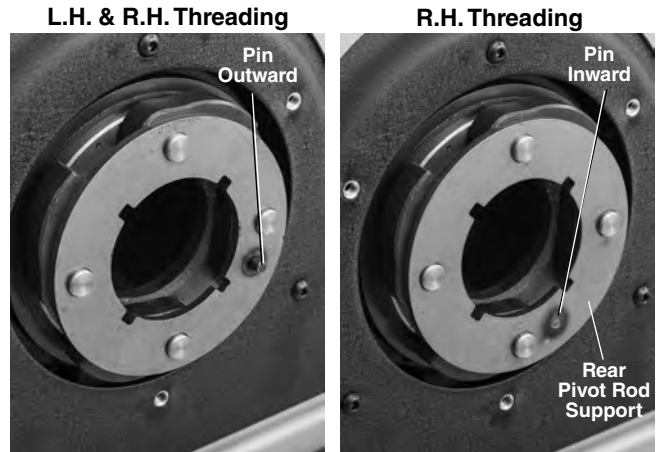

Figure 25B – Rear Pivot Rod Support - Pin Placement
- c. Remove E-clips and rear pivot rod support (Figure 25B).
- d. Position the rear pivot rod support so that pin faces outward and reinstall (Figure 25B).
- g. To convert back to Right Hand threading only, turn over the rear pivot rod support so that pin faces inward and reinstall (Figure 25B).